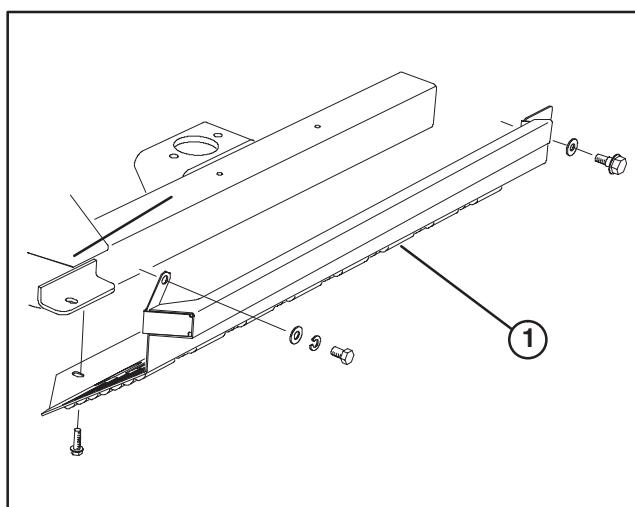

Figure 4
5. Remove lower shroud from left rear side of machine (Fig. 4). Retain fasteners and shroud.